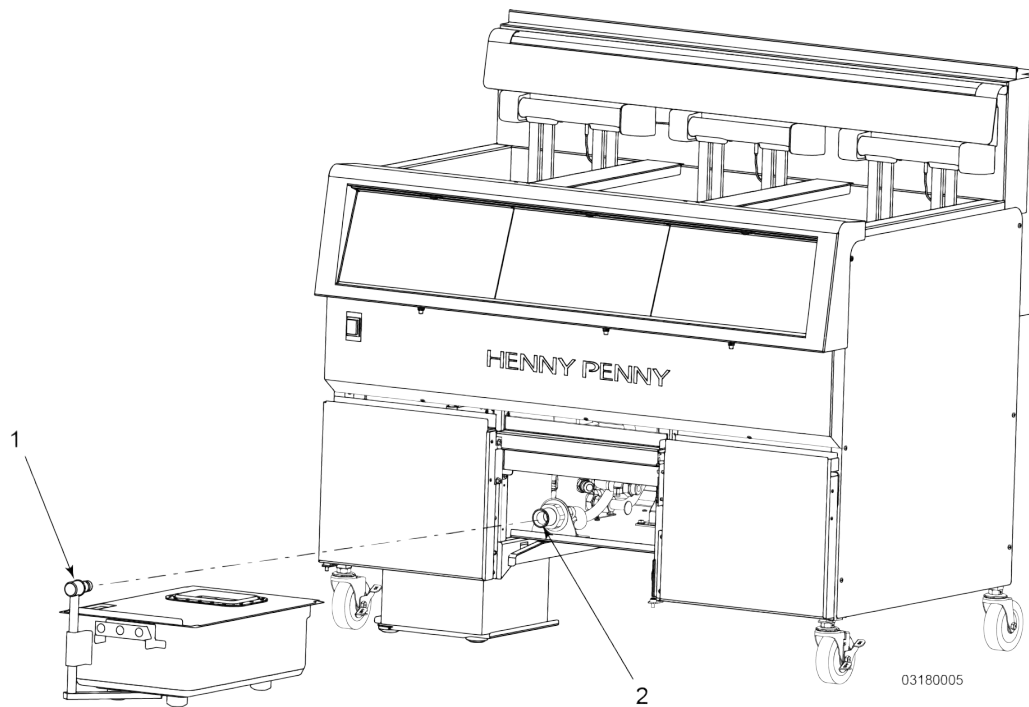

Figure 4-17 Drain Pan Remove/Install
- 2) Remove the filter pan by pulling it out from under the fryer. This separates the male (1) and female (2) sections of the filter pan connection, see Figure 4-17 Drain Pan Remove/Install, page 31.